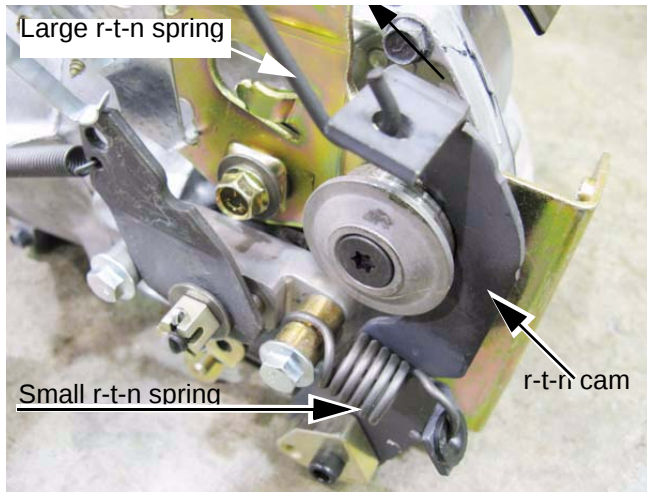

Figure 5.84
- 19c. The large return-to-neutral spring can be unhooked from the return to neutral cam. See Figure 5.84.